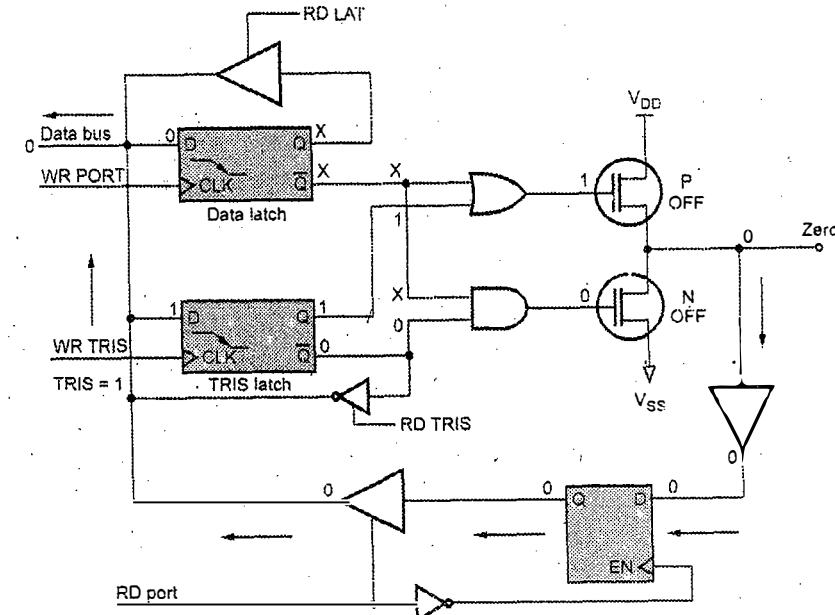

Fig. Q.3.1 Input '0' to pin in the PIC [reading]
**Ans. : Reading from port pin :** The PIC18 family has five ports Port A (6), B (8), C (8), D (8), E (3) with 33 I/O lines. These lines can be used for data transfer between working register 'W' and peripherals and vice a versa. Each port can be configured as input or output. Each port has three registers for its operation :
- The configuration of port for reading 1 or 0 from port pin is shown in Fig. Q.3.1 and Q.3.2.